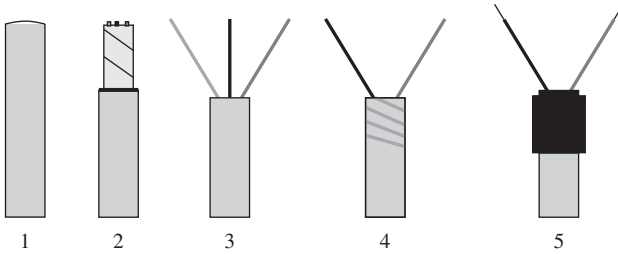

Figure 4-4f
Figure 4-4f is a method for terminating a shielded twisted-pair cable.
3. Remove the shield and separate the wires. In Fig. 4-4f the light gray wire is the shield, the black wire is the R (receive data), and the dark gray wire is the T (transmit data).